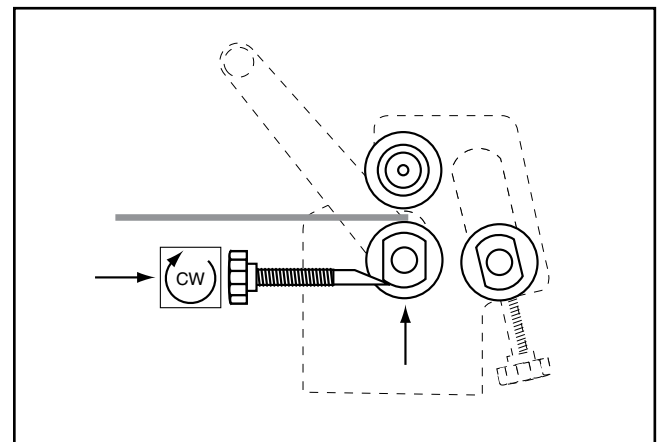

Figure 14. Raising bottom roller.
- Place the workpiece between the top and bottom rollers, as shown in **Figure 14**. Turn the thickness adjustment knobs to raise the bottom roller until the workpiece is held snug between the top and bottom rollers. Be sure to turn the thickness adjustment knobs equal amounts.